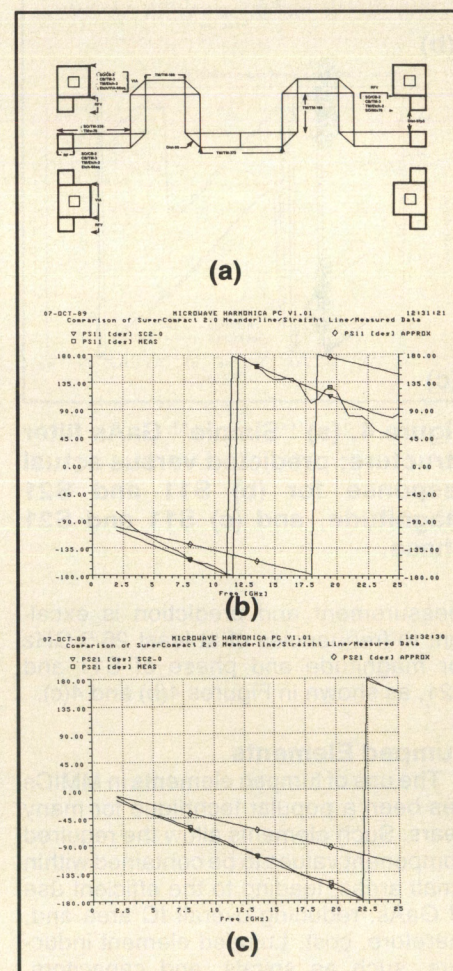

Figure 3. (a) Meanderline test structure on GaAs; comparison of measured results and straight-line approximations for (b) phase of S11, (c) phase of S21.
In many cases, microstriplines are meandered with mitred bends to contain electrically long lines within small areas. These lines are modeled as coupled lines using the SuperCompact CPL statements together with the ABEND statements for the mitred bends. Work by Raytheon Research on such structures (1) has resulted in very good agreement between the predictions and results for the magnitude and phase of the S-parameters (Figure 3). This figure also shows the large differences that exist if the meanderline is only consid-